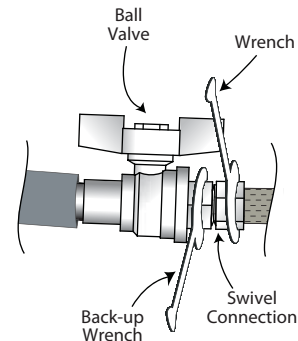

Figure 8
5. Use a wrench to tighten the swivel connections. Use a backup wrench to hold the riser ball valve stationary to prevent it from bending or twisting during installation as shown in Figure 8. Be careful to not over tighten swivel connections.